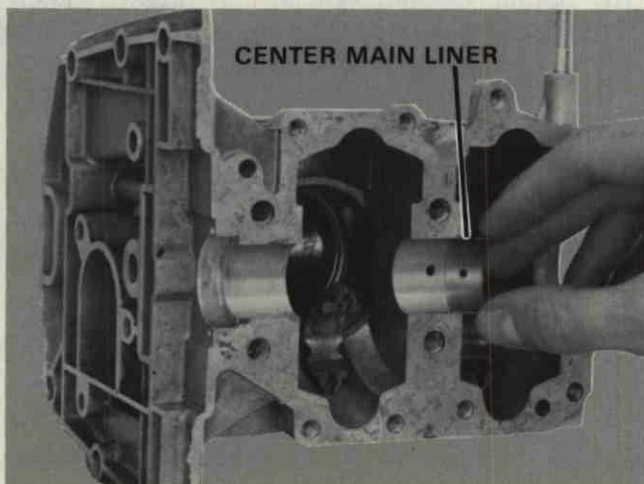

Figure 31. Installing Center Main Liner.
- B. Place main bearing liner in cylinder, lining up hole in liner with hole in cylinder. Figure 31.